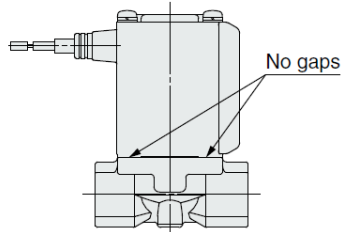
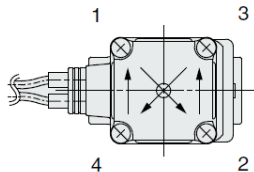

Fig.19a
Fig.19b
- Push the coil assembly against the body and tighten the screws two or more rounds diagonally (Figure 19b). There must be no gaps between the coil assembly and the body (Figure 19a).
- * After tightening the screws, make sure that there are no gaps between the coil and body (Fig. 19a).